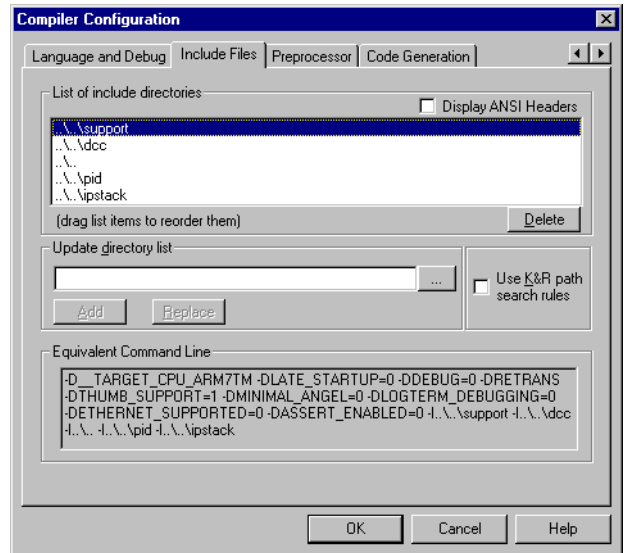

Figure 13-10 Compiler Configuration
10. Select **Project**→**Tool Configuration**→<cc> = **armcc**→**Set**. The Compiler Configuration dialog is displayed (Figure 13-10).